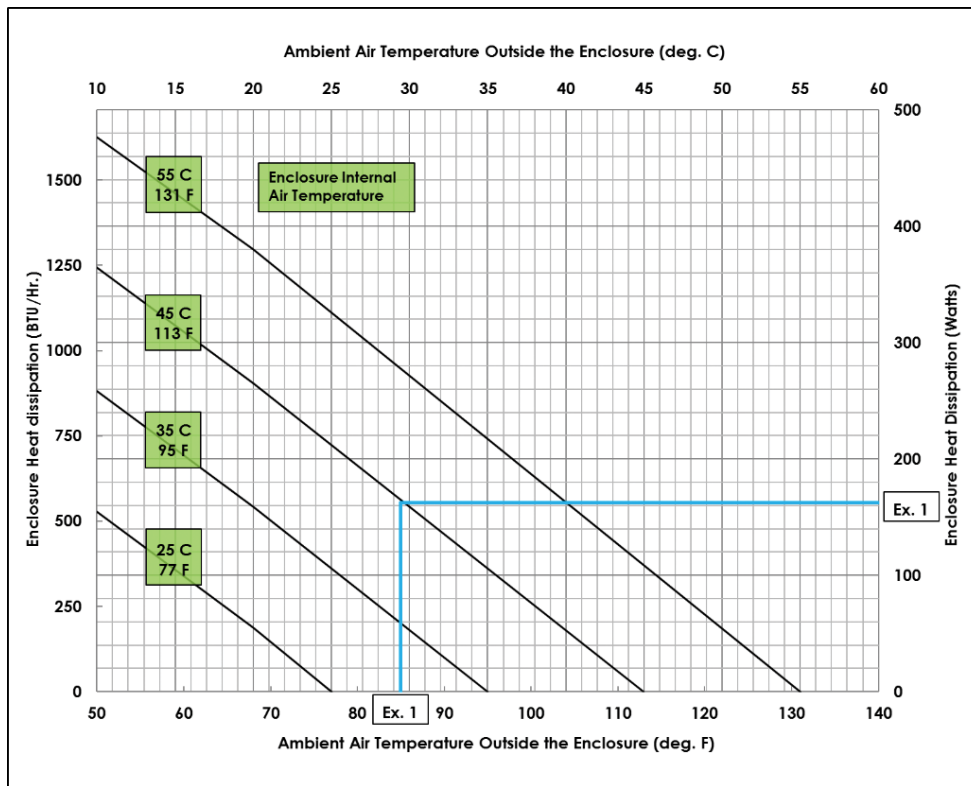

Figure 3: Z23 Enclosure Thermal Guideline – Sealed
4. Figure 3 provides a guide for a sealed Panduit Z23 enclosure heat dissipation for various external ambient temperatures